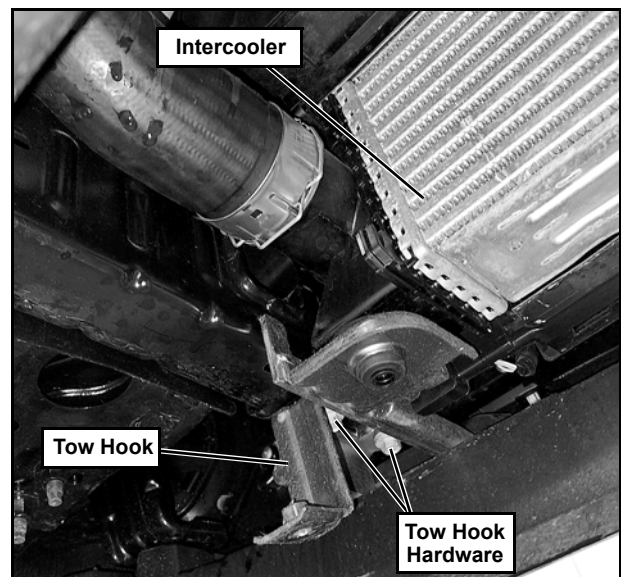

Figure 1-2
2. Remove only the driver side tow hook and the shroud over the tow hook attached to the bumper. Retain the tow hook hardware for installing the Driver Side Mount Weldment (#2) (See Figure 1-2).